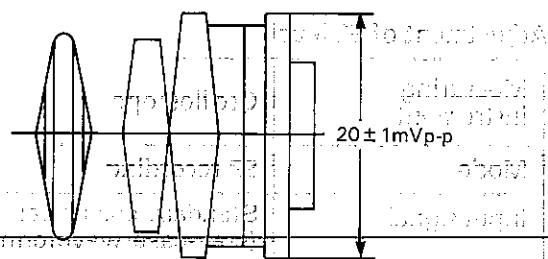

Figure 2-8.
- c) Adjust R518 (recording chroma control) to that the red level be $20 \pm 1\text{mVp-p}$ as shown in Fig.2-8.